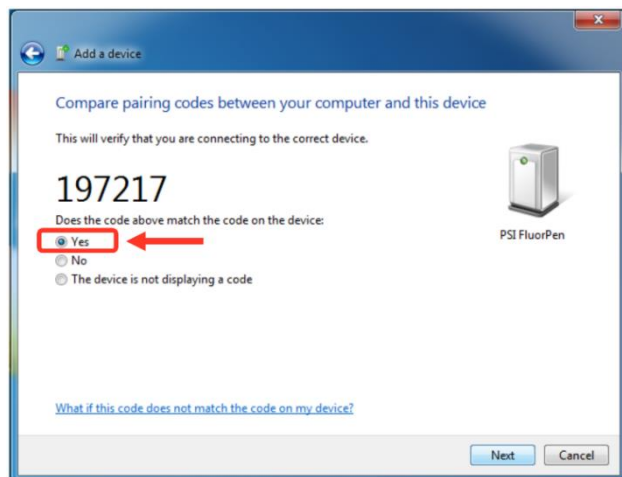

Fig. 9 Verifying of the Bluetooth pairing.
- Select: Yes (Fig. 9). Please note that the PlantPen device does not display the verification number. The verification code is not important for the BT connection.